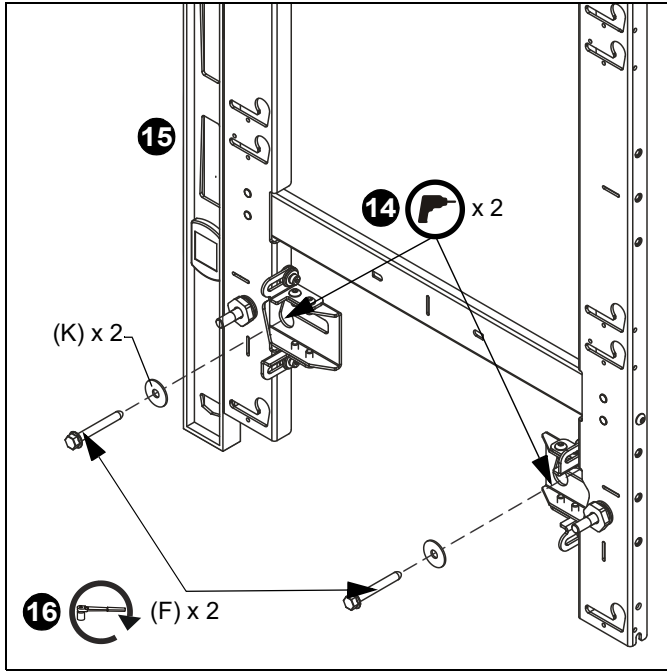

Figure 11
14. Drill pilot holes in centerline of lower slots (see Table 1 for size) and follow fastener information (appropriate for wall type) located in Table 1. (See Figure 11)
15. Double check the level of the mount along the side of the mount. (See Figure 11)
16. Fully tighten the 5/16 x 2-1/2" lag screws (F) through the 5/16" fender washers (K). (See Figure 11)